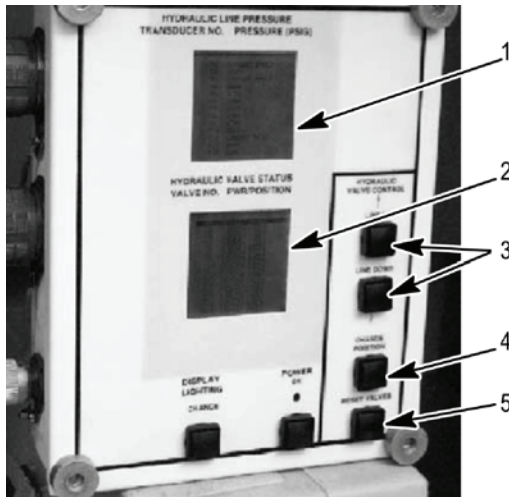

Figure 8. HDC Control Box
- Reset all HDC solenoid valves by selecting the RESET VALVES button (Figure 8, item 5) on the HDC control box.
- Disable ejector by manually closing the ejector inhibit ball valve V23 (Figure 9, item 2) on the DCV bank. Using LINE UP or LINE DOWN button (Figure 8, item 3), select V1 on the HDC display (Figure 8, item 2). Close V1 on the HDC display (Figure 8, item 2) by selecting the CHANGE POSITION button (Figure 8, item 4) on the HDC control box.
- Have assistant start engine and allow engine to idle (750–800 rpm). Slowly close right main hydraulic pressure inhibit valve V21 (Figure 9, item 1) until transducer T-3 on the HDC display (Figure 8, item 1) indicates 3,950–4,050 psi (27,235–27,925 kPa).